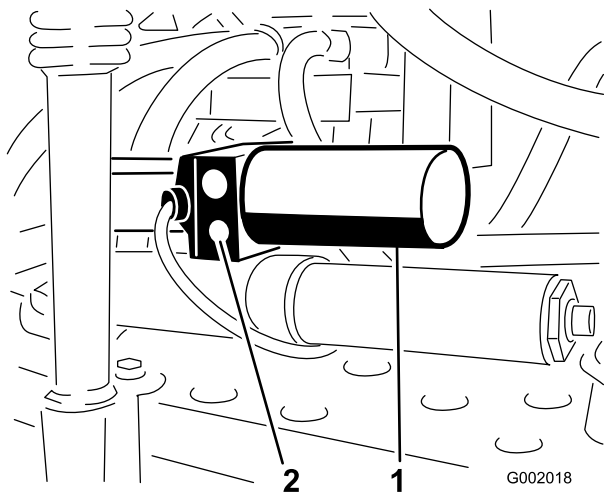

Figure 74
- Locate the manual relief valve on the actuator for each boom. The manual relief valve is the smaller valve and is only on one side of the actuator body (Figure 74).